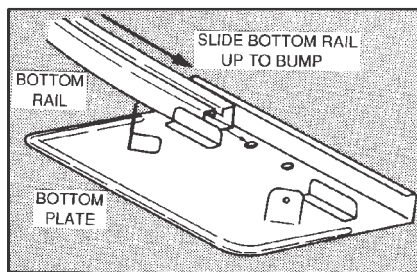
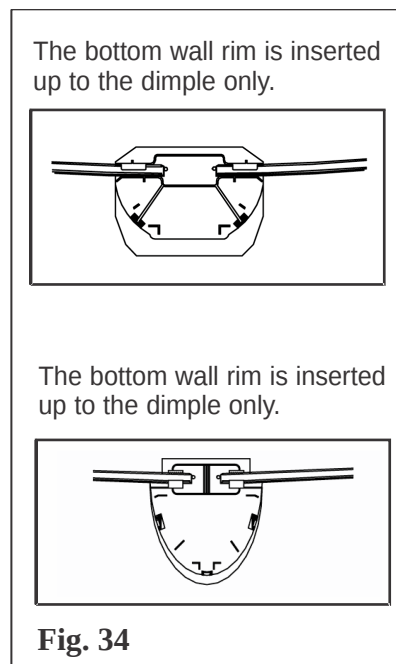

Fig. 33
Fig. 34
- In most size pools, the four 39" bottom wall rims are for the "corners." One side snaps into the straight side connector on the final straight side upright, while the other side slides into a bottom plate or bottom cuff as shown in Fig.33 or Fig.34.